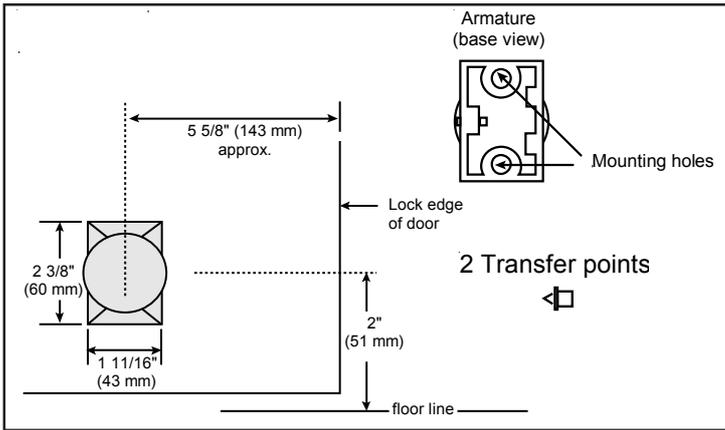

Figure 5. Armature Mounting
4. Mount the connected assembly onto the floor plate, and secure it using (2) #1/4 x 20 x 1" screws (supplied).
**NOTE:** Armature assembly must be mounted vertically (Figure 5) to obtain correct alignment with the electromagnet.
2. Place the transfer marking points in the armature mounting holes (Figure 5).